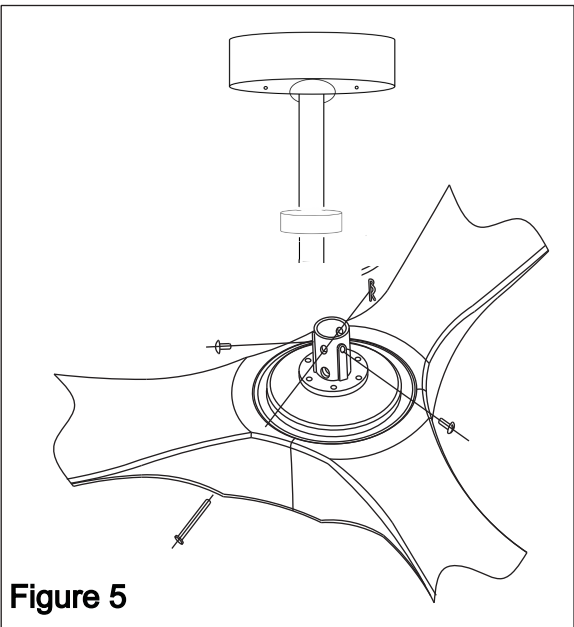

Figure 5
5. Loosen two set screws on the downrod support and then place the downrod into the downrod support (Figure 5). Thread the electrical wires and the earth wire through the downrod. Align the Clevis Pin holes in the Downrod with the holes in the Downrod Support. Be sure to push the straight leg of the Hairpin Clip through the hole near the end of the Clevis Pin until the curved portion of the Hairpin snaps around the Clevis Pin. Finally, re-tighten the two set screws.